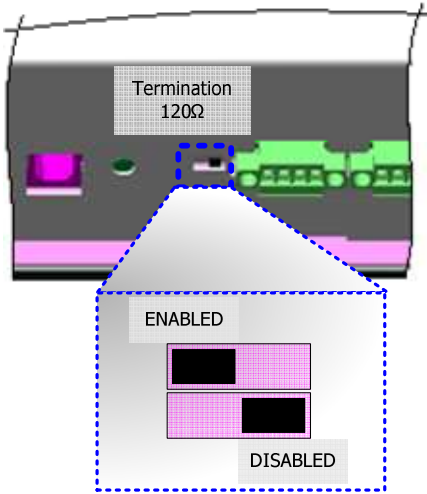

Figure 14-3: 120ohm termination switch for RS485
- Switch for termination 120ohm for the RS485 communication (Figure 14-3).
- Enable the termination 120ohm on the last inverter of the enchainment serial and disable it on all the remaining inverters. This operation is performed by acting on the switch under the main display. (Figure 14-3).